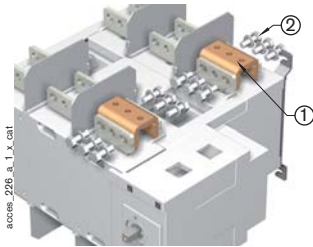
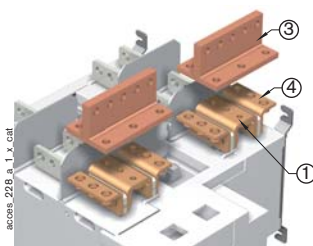

Fig.1
Fig.2
- connection between the two power terminals from a same pole for 2000 to 3200 A ratings (Fig. 1 and Fig 2)
*Top or bottom flat connection - Fig. 1*
*Top or bottom edgewise connection - Fig. 2*